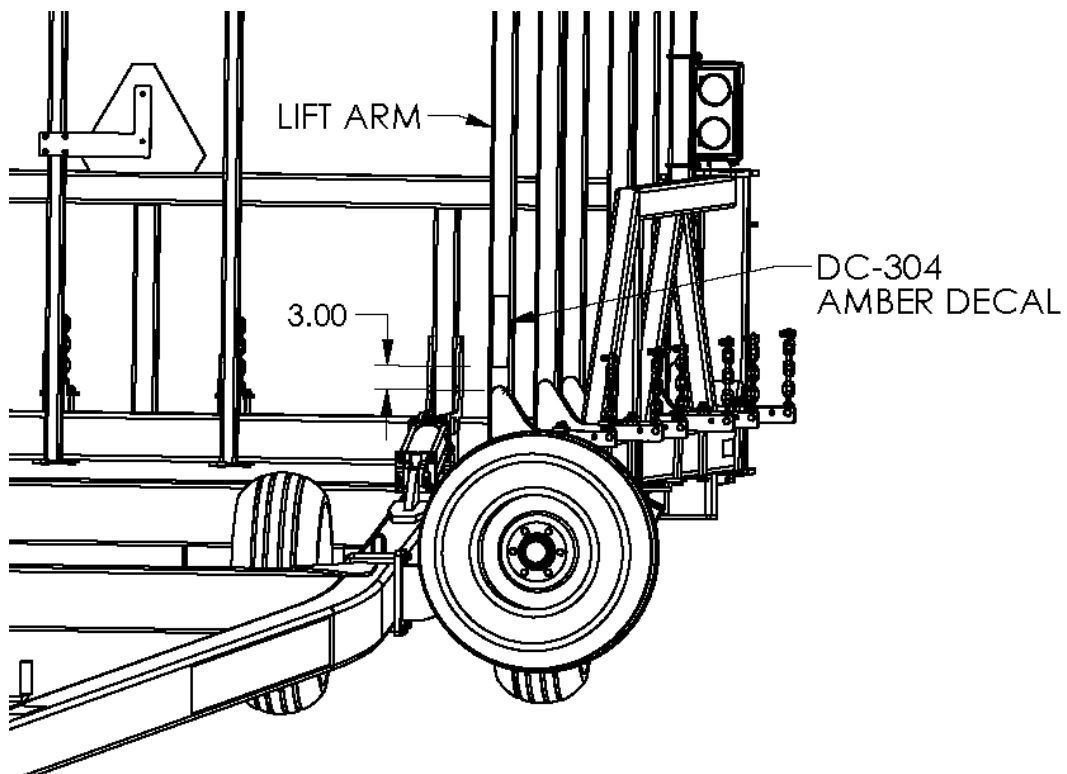

Figure 29
3. Apply the amber retroreflective (DC-304) decals to both of the forward most lift arms, so that they are visible from the front as shown in Figure 29.